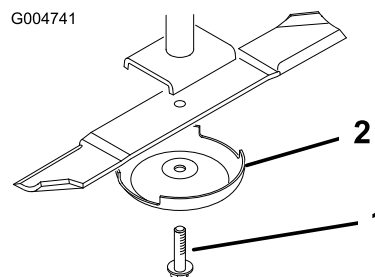

Figure 98
3. Remove the blade bolt, anti-scalp cup, and blade from the spindle shaft (Figure 98).